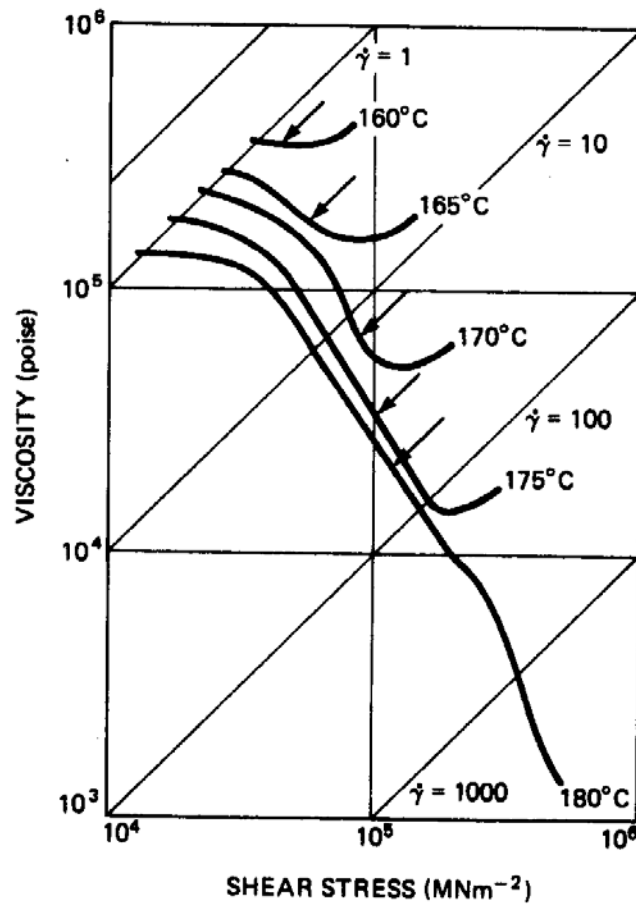

Figure 1
- [c] Figure 1 shows apparent viscosity – shear stress relationship for polypropylene (PP) at various temperatures.